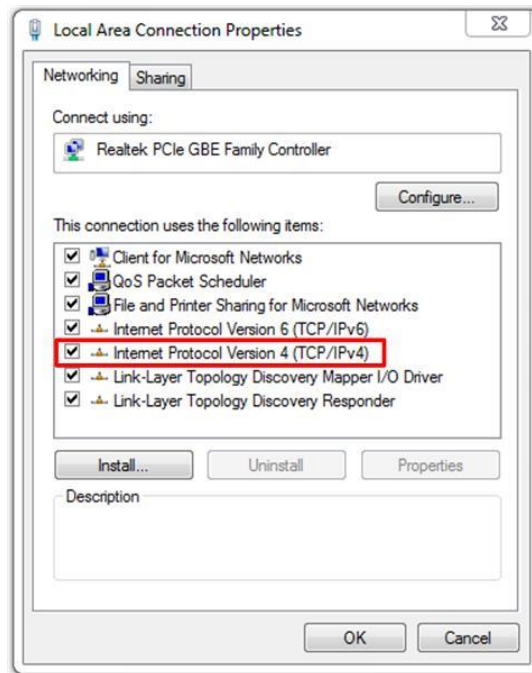

Figure 2-3 Windows Network Connections properties page
Step 6: From the Local Area connection Properties window, double-click on "Internet Protocol Version 4 (TCP/IPv4)". See Figure 2-3.